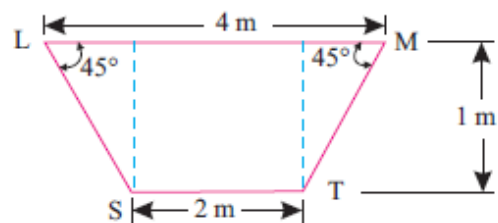

Fig. 3.14
**Solution.** Refer to Fig. 3.14